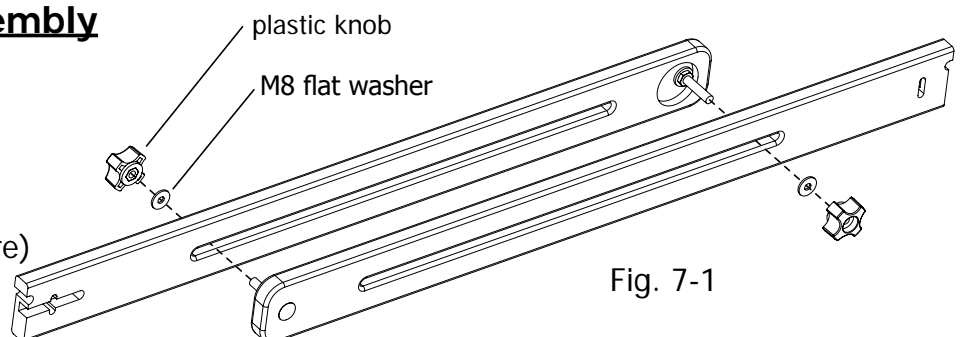

Fig. 7-1
Step 7: Insert the just installed bolts through the slot located in the other side brace as shown in Fig. 7-1. Secure the braces together using M8 washers and plastic knobs.